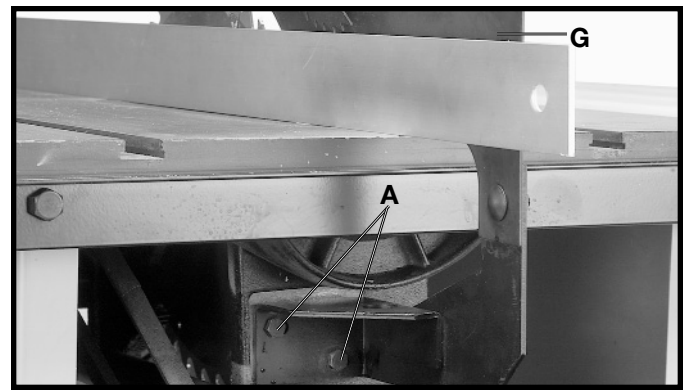

Fig. 37
11. Using a straight edge, check to see if the saw blade is aligned with the rear of the splitter (G), as shown in Fig. 37. If alignment is necessary, loosen the screws (A) Fig. 37, align splitter (G) with the saw blade, and tighten two screws (A).